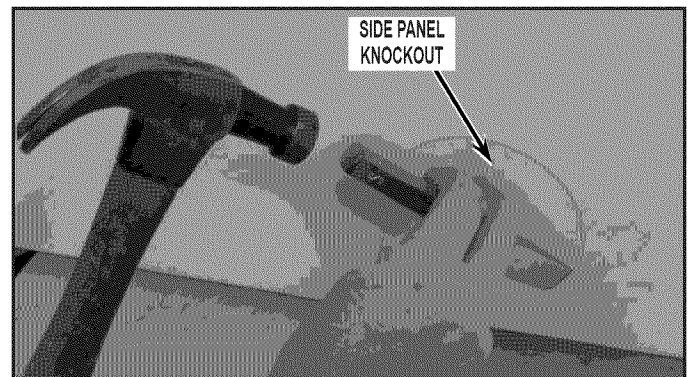

FIGURE 33
- To remove the rearward right side knockout by using either a 1/8" drill bit and drill or a cold chisel and hammer. Remove the six (6) knockout retaining tabs around the edge. See *Figure 33*.